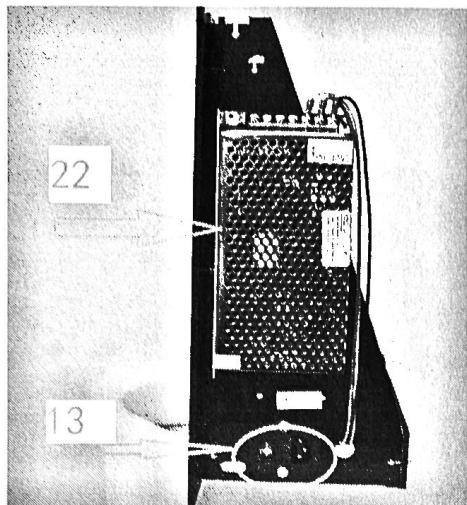
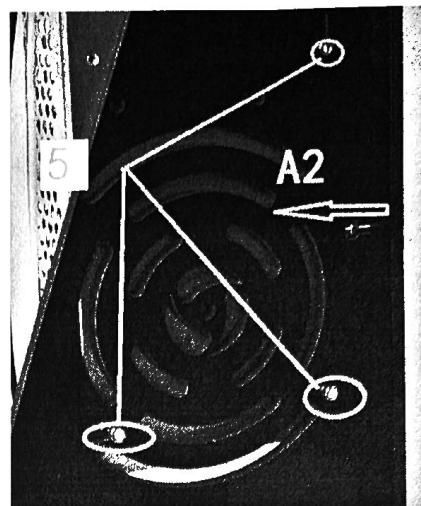
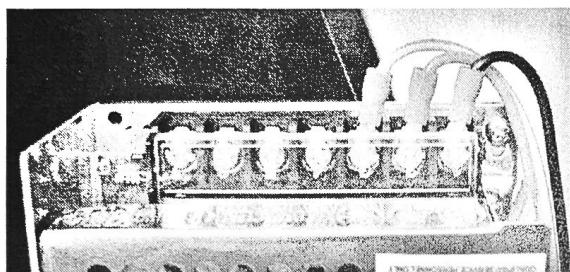
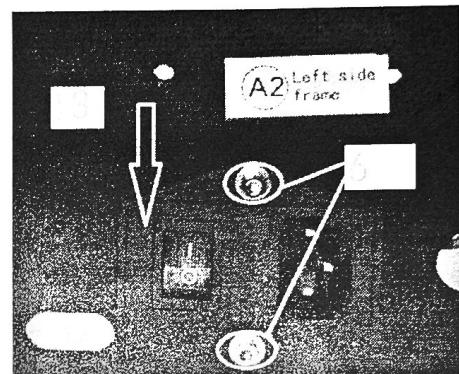

Figure 7.1 A2 Assembly
Figure 7.2 Motherboard on the Back and Tightening Screws
Figure 7.3 Connection of Power Source Socket and Motherboard Cables
Figure 7.4 Power Source Socket and Tightening Screw
The installation of A2 assembly is shown in Figure 7.1. As instructed in figure 7.2, fix the motherboard ⑫ onto the A2 board on the right side of main framework with 3 pieces of ⑤ screw. Then follow figure 7.4 to fix power source socket onto A2 board with screw ⑥, nut ④ and washer ③. The connected power source socket and motherboard cables are shown in figure 7.3.